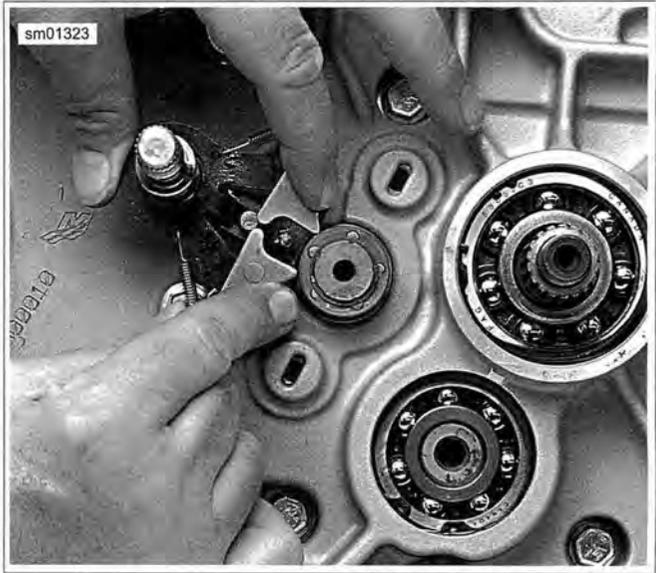

Figure 5-100. Installing Shifter Shaft Assembly
See Figure 5-100. The shifter shaft return spring can be installed incorrectly and then assembled in the left crankcase half. Failure to install the spring properly will result in improper shifting.
2. See Figure 5-100. Press the ratchet arms and insert shaft assembly into the bushing in the left case half and release.